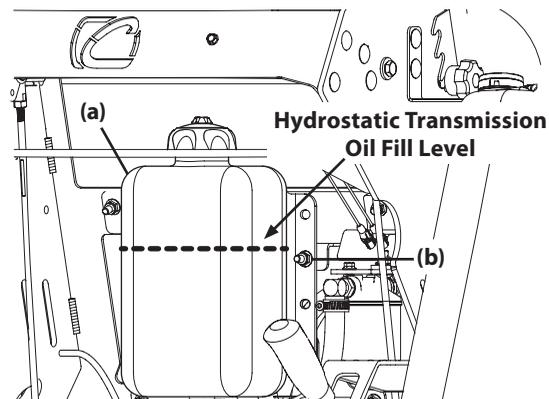

Figure 26
2. Ensure the hydrostatic transmission oil reservoir level is just above the upper reservoir mounting bolts (b) as shown in Figure 26.
9. Add hydrostatic transmission oil until the level is even with the upper reservoir mounting bolts (Figure 26).